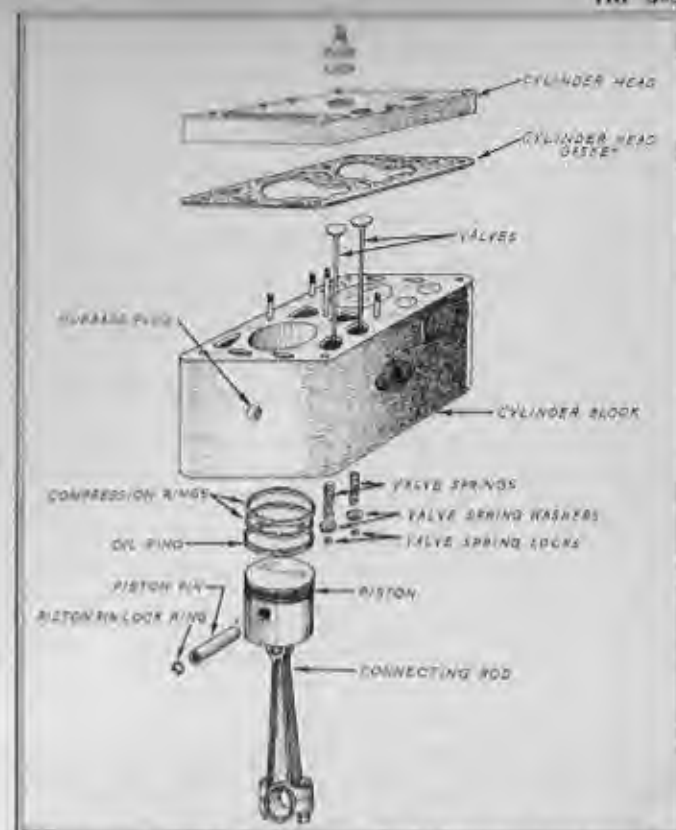

FIG. 27 PISTON, CYLINDERS, AND VALVES
- Remove the remaining cylinder head nuts and remove the cylinder head from the cylinder block. Do not pry the head loose with a screwdriver or other tool. If it sticks, tap it sharply on the side with a hammer to loosen it. See Fig. 27.